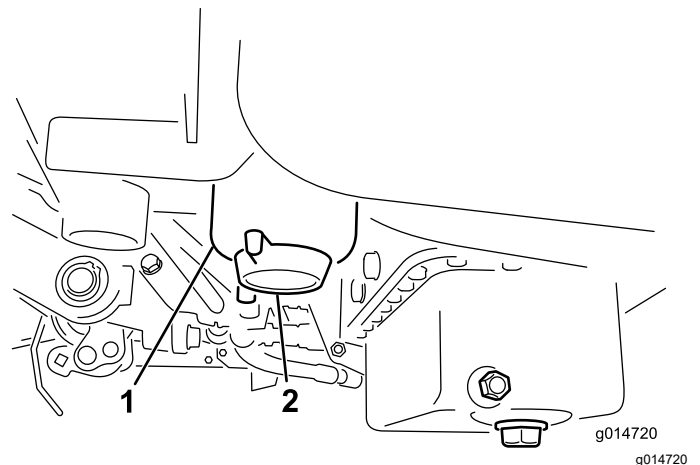

Figure 36
2. Clean the area where the filter canister mounts (Figure 36).
4. Open the filter drain plug (Figure 36).